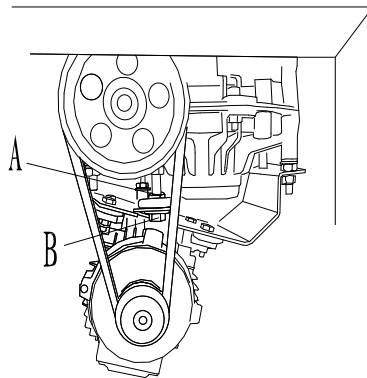

Fig 11-2
- Release the bolt A and nut B. Tighten the belt as Fig11-2. The requirement to the tension of the belt is that the belt will move inward by 8mm if you apply the force of 8kg.